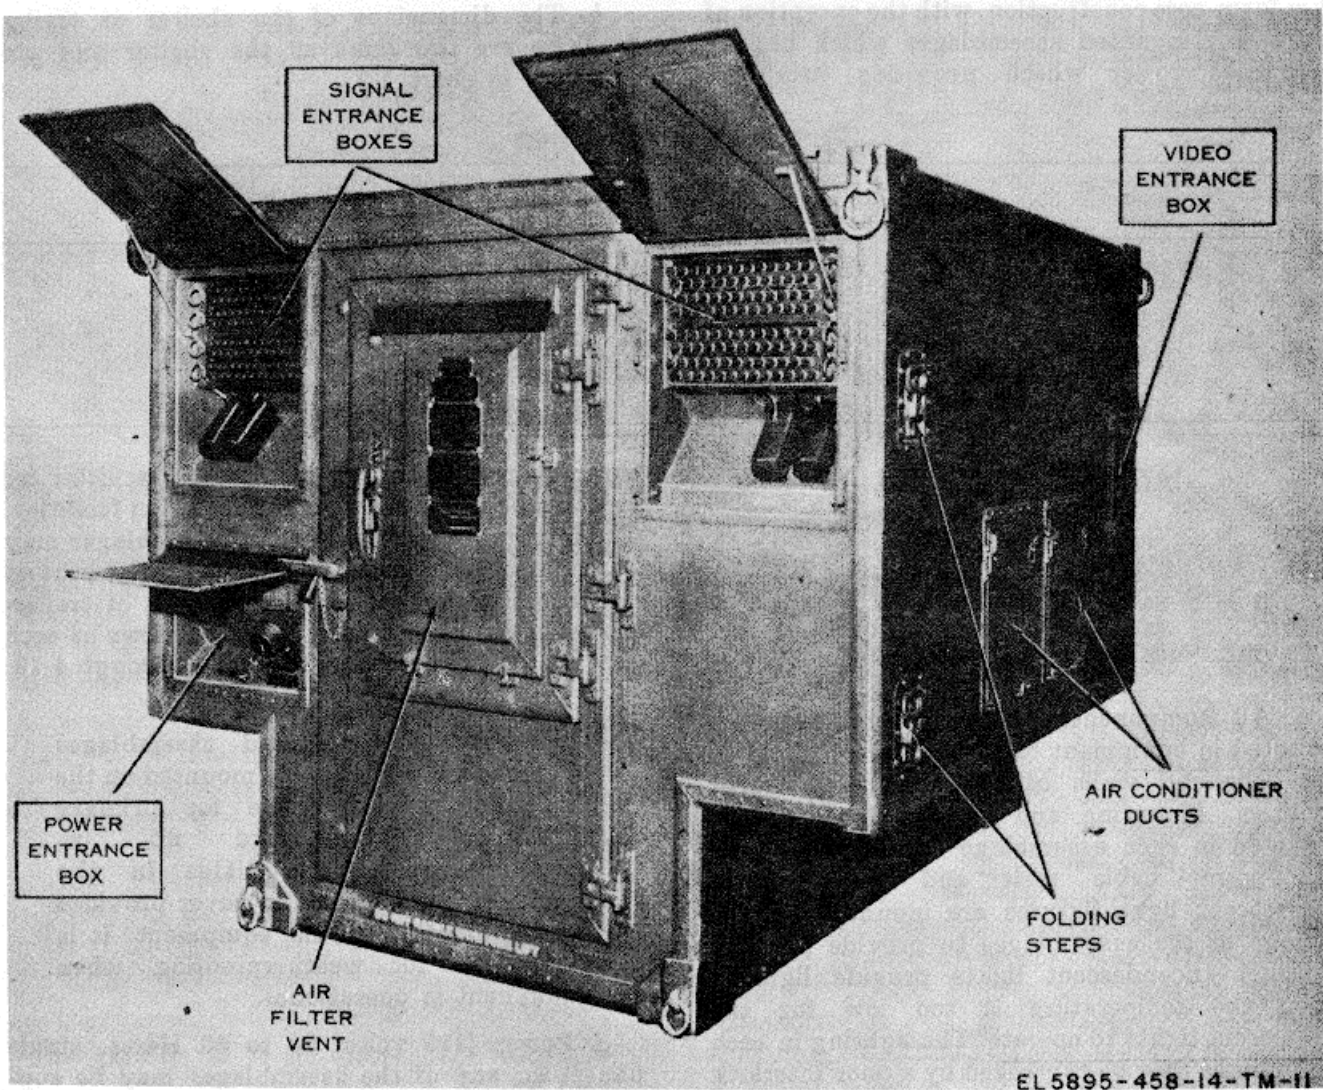
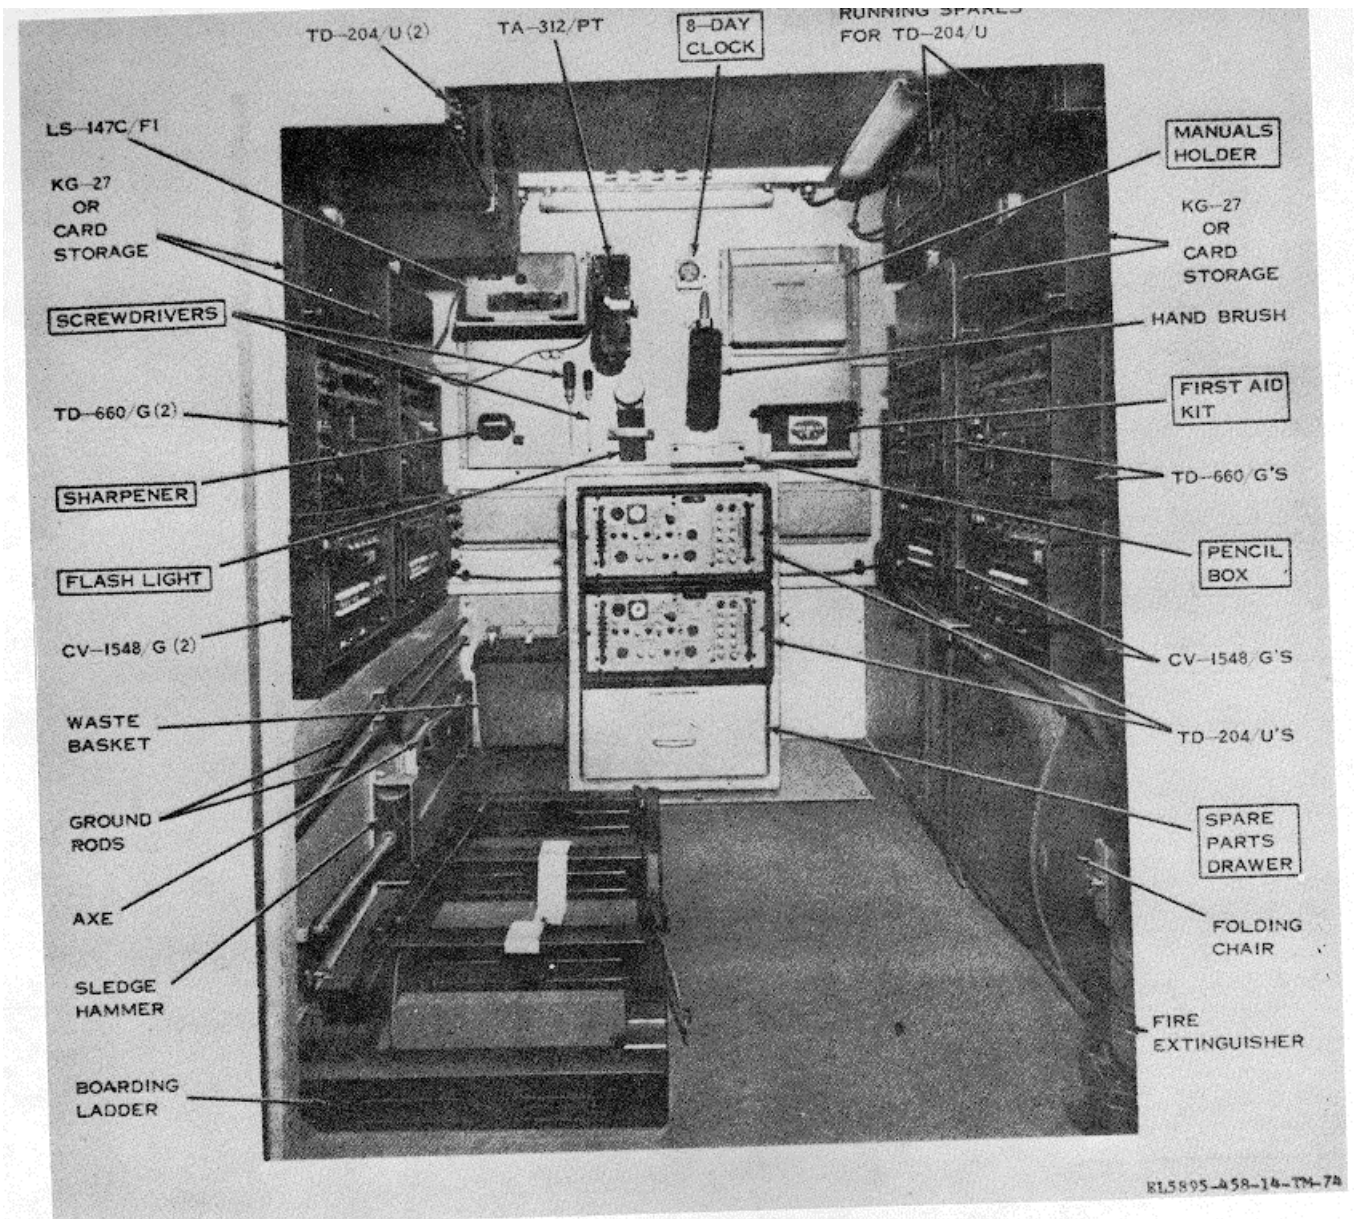

Figure 4-1. Terminal, Telephone AN/TCC-66, rear curbside view (serial No. 1 through 19).
Figure 4-20. Terminal, Telephone AN/TCC-65, front view (serial No. 1 through 19).
assemblages. Each assemblage has facilities for local telephone and intercommunication facilities. The interior temperature of the assemblages may be maintained relatively constant by the heaters and exhaust blowers and by the use of trailer-mounted air conditioners. Exterior views of each assemblage are shown in figure 4-1 through 4-19.
a. Use. Terminal Set, Telephone AN/TCC-65 (fig 4-1 through 4-4) provides secure or nonsecure multiplex cable terminal or repeater facilities for forward area pulse code modulator (pcm) communication systems. Although the AN/TCC-65 is primarily a cable terminal, it may be used with other equipment such as Repeater Set, Radio AN/TRC-113 for radio terminal applications (fig. 6-2). Interiors of the AN/TRC-65 are shown in figures 4-20 through 4-29.